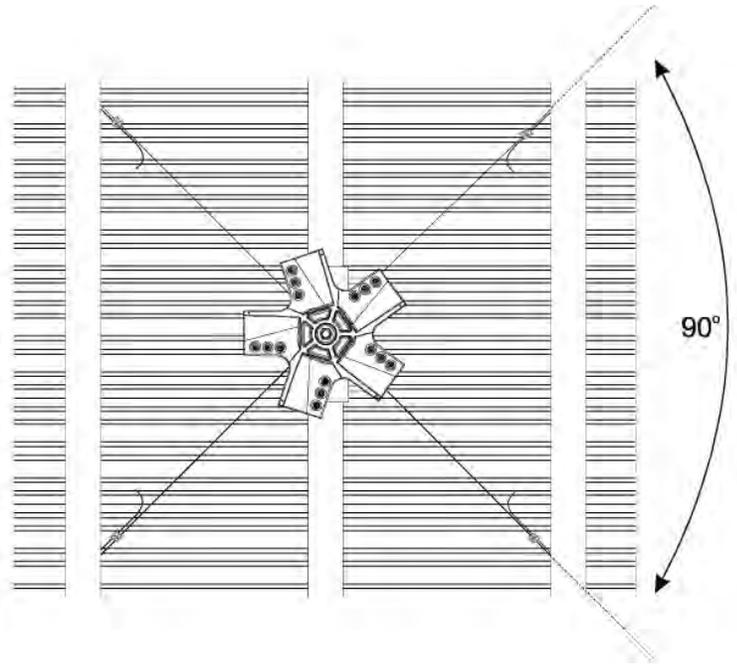

Fig.17
4. Secure it with 1 thimble and 2 cable clamps (Fig.16). Repeat using the other 3 pieces of guy wire cable, thimbles and cable clamps (Fig.15) Guy wires should be snug but not overstressed to allow free self-levelling. They should also be approximately 90° apart (Fig.17).
5. (Fig.17).